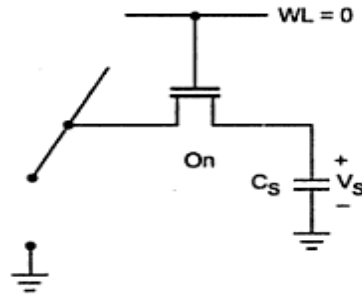

Fig. 9.20 Hold operation
- Time to discharge from V_{max} to V_1 (in Fig. 9.20).